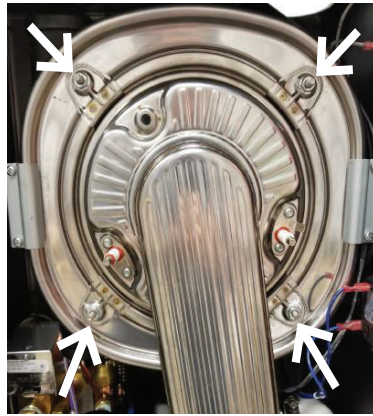

Figure 3
7. Remove the (4) 10mm nuts that attach the cold burner door to the heat exchanger (Figure 3).